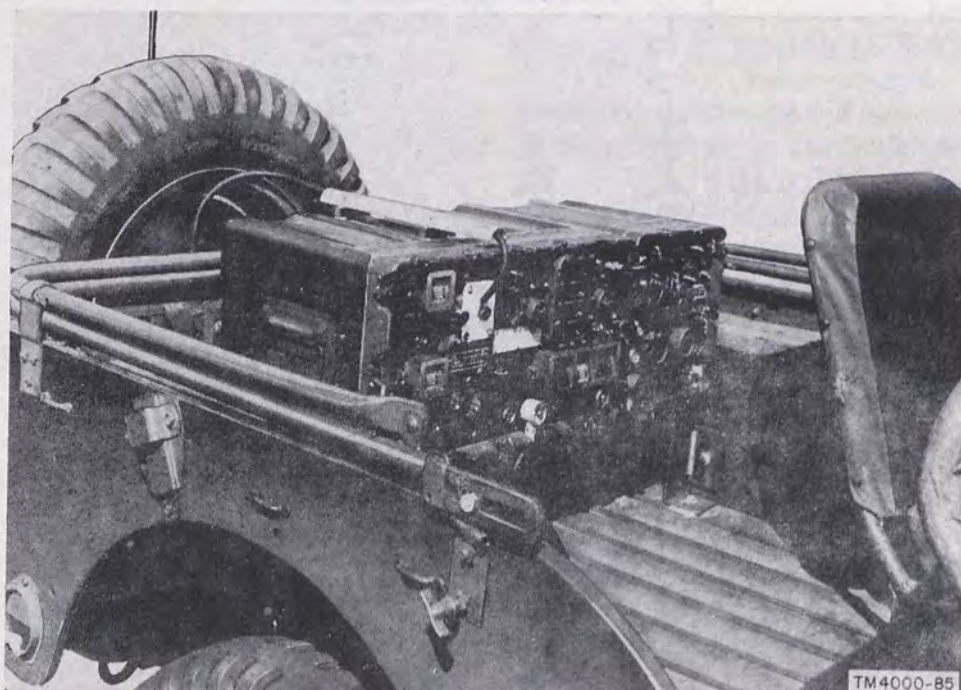

Figure 60. Radio set installed in rear of vehicle.
a. Radio sets installed in tanks, trucks, and jeeps present special problems. A typical installation is shown in figure 60. Frequently trouble appears in the installation only while the vehicle is in motion. This is usually the result of a poor connection which shows up because of the vibration of the radio equipment. To locate the source of the trouble, check all cabling for looseness and improperly tightened plugs and connectors. While the equipment is in operation, the cabling should be wiggled and the basic components of the radio set should be rocked so that any abnormal result may be noted.